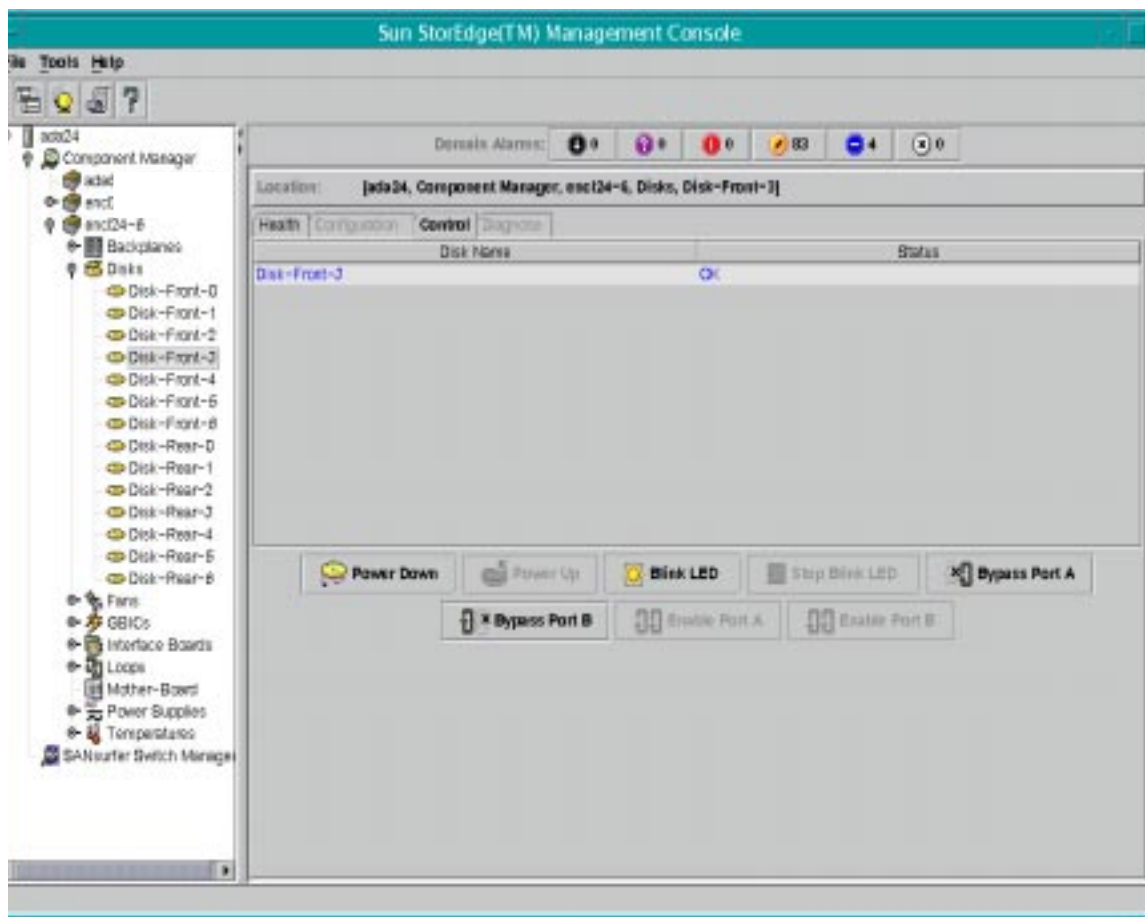

FIGURE 5-1 Sun StorEdge A5x00 Disk Control Window
3. Select the Control Tab (see FIGURE 5-1).